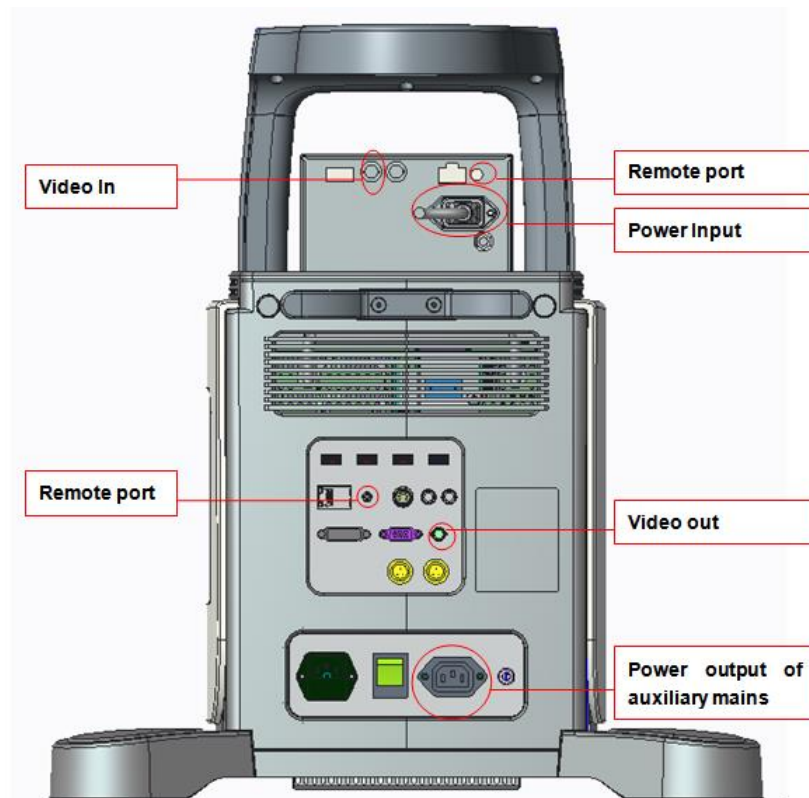

Fig.3-3
- 1) It needs three cables: Remote cable, Video signal cable, Power cord. See picture in Fig.3-3.
- 2) Connect the remote cable to remote port on the back panel of ultrasound system. See picture in Fig.3-3.
- 3) Connect the video signal cable to the Video Out port on the back panel of the ultrasound system. See picture in Fig.3-3.
- 4) Connect the Power cord to the Power output of auxiliary mains on the back panel of the ultrasound system. See picture in Fig.3-3.